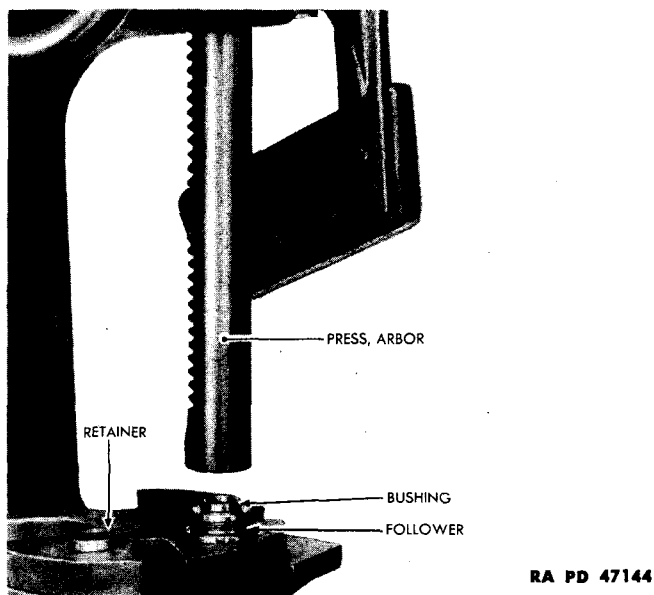

Figure 84 — Installing Bushing in Follower
b. Assembly of Recoil Cylinder Cover. Place follower (flange end downward) on bed of arbor press (fig. 84). Then aline bushing with opening in follower and press bushing into follower. Turn follower over on bed of arbor press and install retainer in same manner as bushing. Place packing (small end first) into cover and push into place in cover. Aline leather washer with opening in cover and push washer against packing in cover. Screw follower with its assembled bushing and retainer into cover by hand and tighten firmly (adjustable spanner wrench TKLX1A) (fig. 78). Place fiber washer against follower with screw holes in washer alined with screw holes in follower. Then install six screws that secure washer to follower.